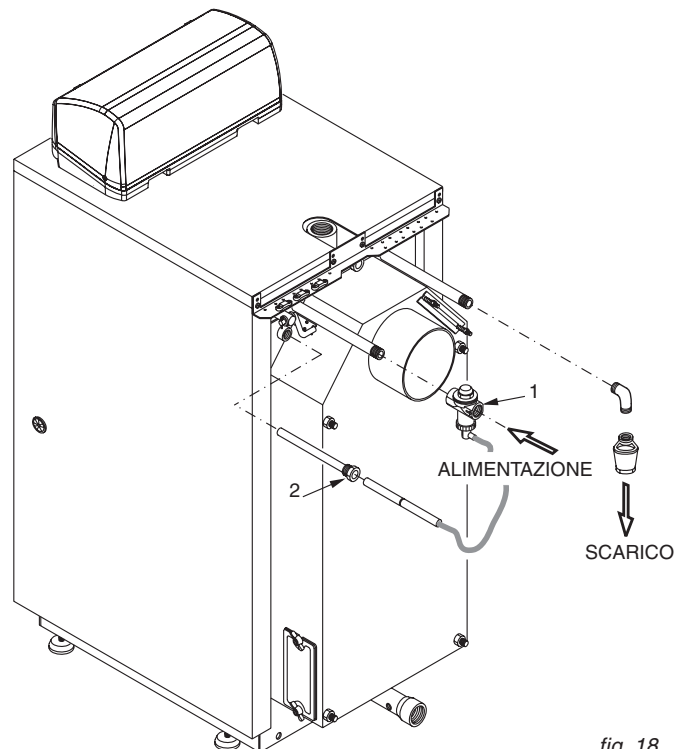

fig. 18
A) Fit the ball grip pos. 4 onto the upper door closing handle.
B) Fit the screw and nut on the upper and lower door and screw down the ball grip (pos. 1, 2, 3).
E) Fit the flame sight mirror (pos. 5) onto the lower door's sight glass.
F) Fit the thermal discharge valve's bulb holder (pos. 2, fig. 18).